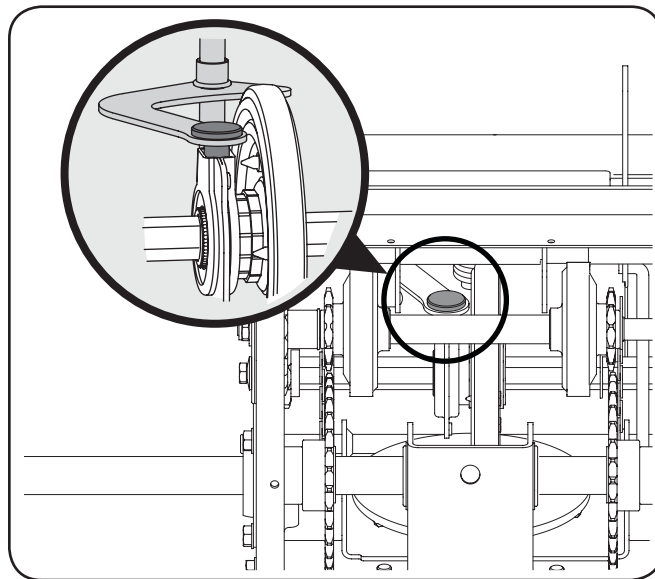

Figure 7-13
- Reposition the friction wheel assembly in the snow thrower frame. Insert the pin from the shift arm assembly into the friction wheel assembly and hold assembly in position. Refer to Figure 7-13.